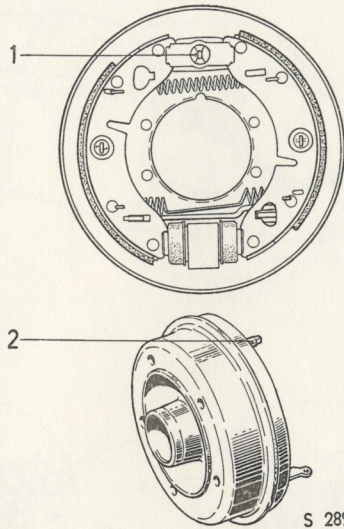

Figure 27. Footbrake adjusting screws, rear wheel
2. The adjusting screw for the rear wheel brake consists of a square pin located inside the brake shield, see Figure 27. Tighten the pin with a special tool included in the tool kit until the wheel is locked, then loosen by unscrewing one or more notches until the wheel rotates freely again.